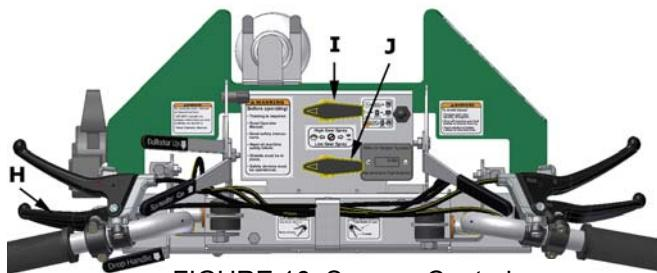

FIGURE 16, Sprayer Controls
Referring to **FIGURE 16**: A Spray Lever (H) with lock is mounted
- To select which nozzle will spray, point the Spray Control Valve handle for the gear selected to the desired nozzle either Broadcast or Trim. The front Spray Selector Valve (I) is used for **HIGH GEAR** and the rear Spray selector Valve (J) for **LOW GEAR**. Point Valve Handle left for Broadcast spraying, right for Trim spraying, and forward to prevent spraying for either nozzle.
- To begin momentary spraying, pull the Spray Lever (H) (**FIGURE 16**) toward the handgrip.